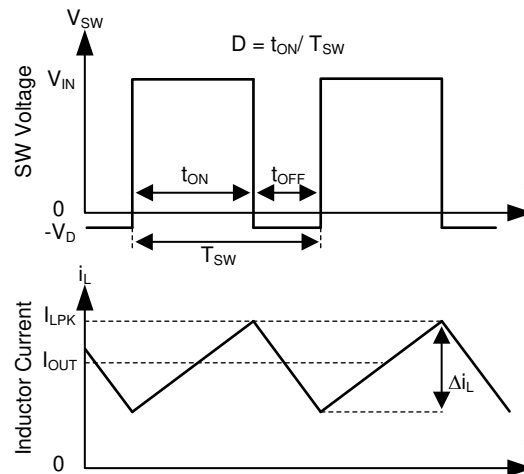

Figure 10-1. SW Node and Inductor Current Waveforms in Continuous Conduction Mode (CCM)
The following operating description of the TPS2583xA-Q1 will refer to the Functional Block Diagram and to the waveforms in Figure 10-1. TPS2583xA-Q1 is a step-down synchronous buck regulator with integrated high-side (HS) and low-side (LS) switches (synchronous rectifier). The TPS2583xA-Q1 supplies a regulated output voltage by turning on the HS and LS NMOS switches with controlled duty cycle. During high-side switch ON time, the SW pin voltage swings up to approximately V_{IN} , and the inductor current i_L increase with linear slope $(V_{IN} - V_{OUT}) / L$. When the HS switch is turned off by the control logic, the LS switch is turned on after an anti-shoot-through dead time. Inductor current discharges through the LS switch with a slope of $-V_{OUT} / L$. The control parameter of a buck converter is defined as Duty Cycle $D = t_{ON} / T_{SW}$, where t_{ON} is the high-side switch ON time and T_{SW} is the switching period. The regulator control loop maintains a constant output voltage by adjusting the duty cycle D . In an ideal buck converter, where losses are ignored, D is proportional to the output voltage and inversely proportional to the input voltage: $D = V_{OUT} / V_{IN}$.
The TPS2583xA-Q1 is internally compensated as shown in Figure 10-1. The internal compensation is designed such that the loop response is stable over the specified operating frequency and output voltage range. The TPS2583x-Q1 is optimized for transient response over the range $300 \text{ kHz} \leq f_{sw} \leq 2300 \text{ kHz}$.